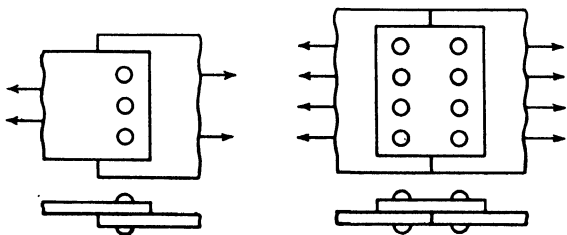

Fig. 233.
1. Find the strength in shear of the lap joint in Fig. 233, using $\frac{1}{8}$ in. diameter 17S-T rivets driven hot.
2. What is the strength of the butt joint in Fig. 233 if all rivets are $\frac{3}{8}$ -in. 24S-T driven cold immediately after quenching?